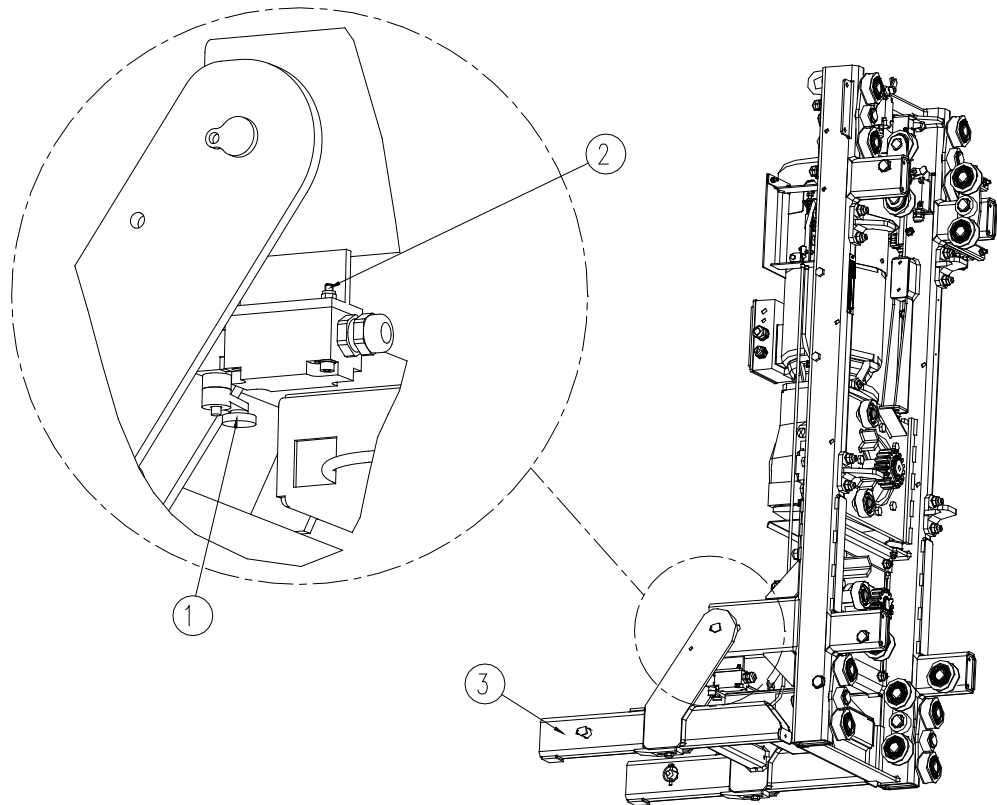

Fig.H.10 Final electric tilt
36. Approach the levelling final limit switch head (1-fig.H.10) using the screws (2-fig.H.10) to the adapter plate (3-fig.H.10).